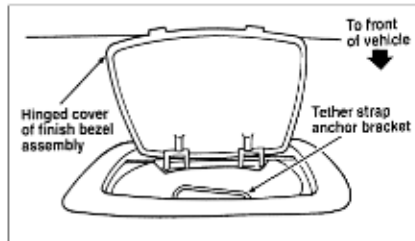

Figure 2
2. Install the tether strap bracket located directly below the cover. Refer to Figure 2. If the center seating position is not being used, the cover should be kept closed for a neat appearance.